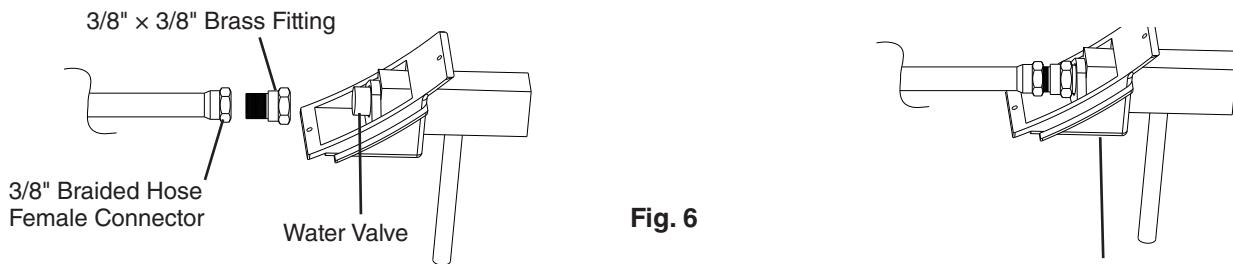

Fig. 6
11) Locate the $3/8" \times 3/8"$ brass fitting provided in this kit, using proper plumbing practices, attach the $3/8"$ female side of the brass fitting to the $3/8"$ male threads of the water valve and tighten. Next, connect one end of the $3/8"$ braided hose female connectors to the $3/8"$ male brass fitting and tighten. See Fig. 6.